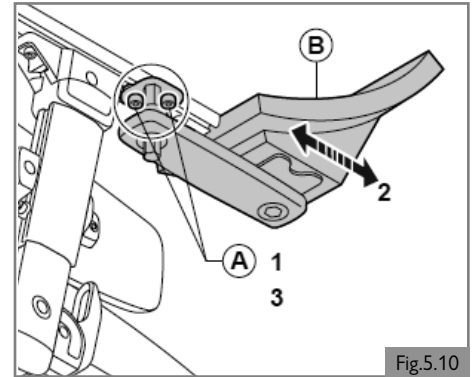

Fig.5.10
5.7 Pre-set fixed / swing away controller**Bracket depth of the controller (Fig. 5.10)**